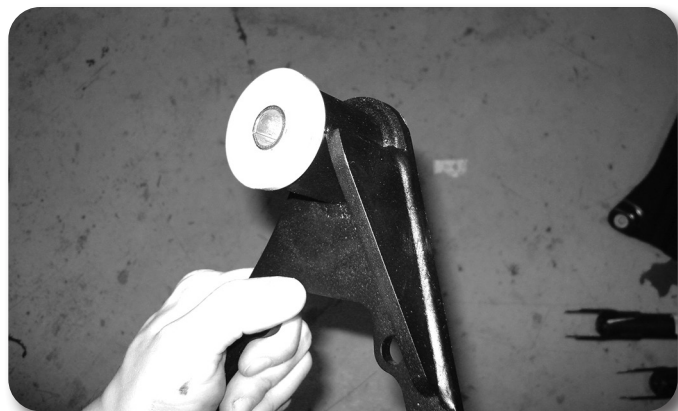

Figure 26
39. Install the provided large bushings and 0.875" OD x 2.620" long sleeve into the eye of the new center differential bracket Figure 26.